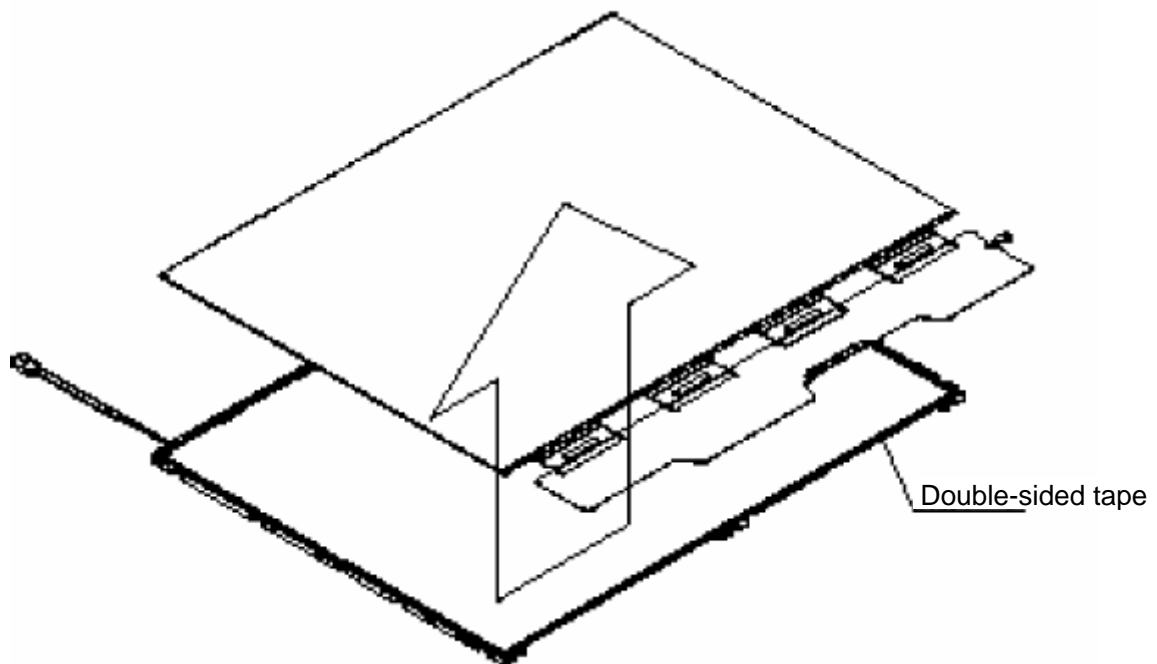

Figure 4-46 Replacing 14.1 Inch TMD fluorescent lamp (XGA) (5)
1. Remove the PCB- assembly cell from the backlight unit, as shown in Figure 4-46.
CAUTION: (1) Remove the tape slowly not to break the cell. The cell and frame are glued by double-sided adhesive tape (as shown in Figure 4-46).
(2) Be careful not to remove the light shielding tapes from the upper, left and right sides of the cell.